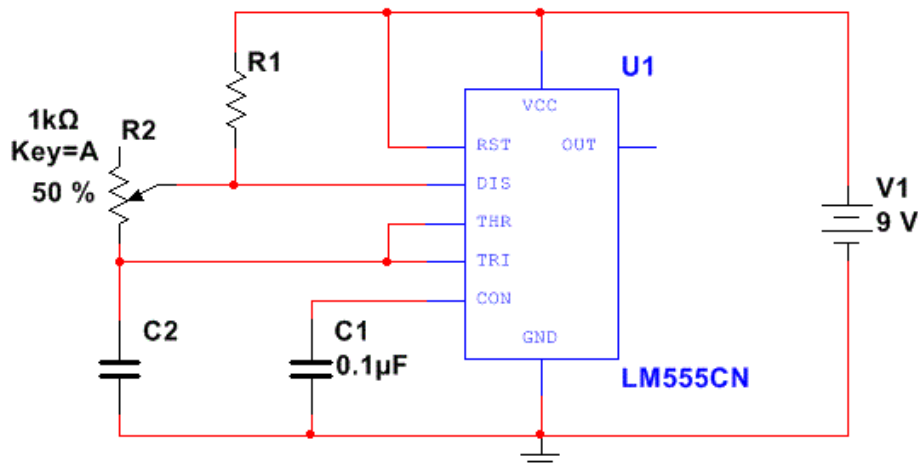

Figure 1: 555 timer circuit
- Using the general layout in Figure 1, design a circuit which will produce a square wave signal that has a frequency range from 1kHz to 10kHz, give or take 10% on each end.